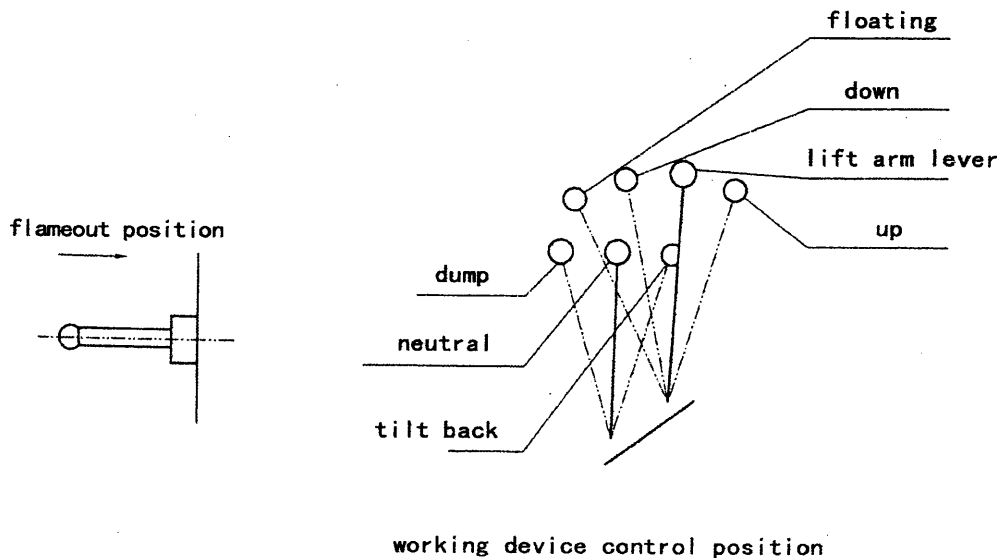

Fig. 2-3
3. Flameout position 、 Working device control: (Fig. 2-3)